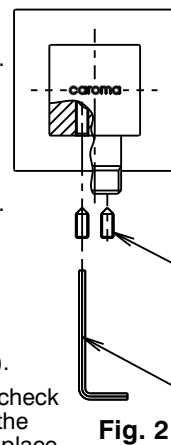

Fig. 2
- 2) Slide brass washer (3) followed by cover plate (2) onto plain diameter of adaptor (4), as shown. Screw adaptor (4) onto threaded nipple (1) until cover plate (2) is held securely against wall/tile face and its top/bottom edge is horizontal, as shown in Fig. 2. **DO NOT OVERTIGHTEN.** Apply suitable lubricant to 'O'Rings (5) on adaptor (4).
- 3) Fit wall elbow (6) onto spigot of adaptor (4) and position base of wall elbow against the cover plate (2), taking care not to damage the decorative finish. While the wall elbow is held in the correct position against the cover plate, tighten screws (7) using 2.50mm allen key (13) until the wall elbow base (6) is held firmly against the cover plate (2).
- 4) Determine a position for the handshower holder (17), ensuring it is at a suitable height for all users. Using the mounting plug (18) as a template, mark out the holes for drilling.